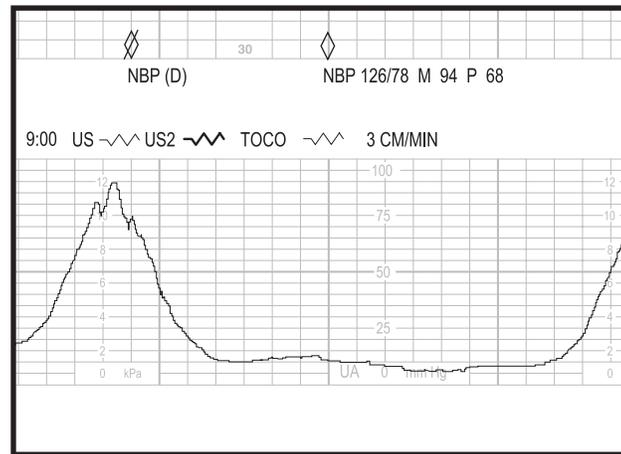

Figure 12-6. NBP Vital Signs Data Annotation from Built-In Module
- ◇: An unfilled diamond indicates the reading was received from the monitor's built-in blood pressure module (Models 128 and 129). The vital signs print below the diamond. See Figure 12-6.
- ◇/ : An unfilled diamond with a slash indicates a blood pressure reading was cancelled/delayed. The ◇/ marks the time the reading was originally scheduled. The annotation NBP (D) prints below the marker. See Figure 12-6.